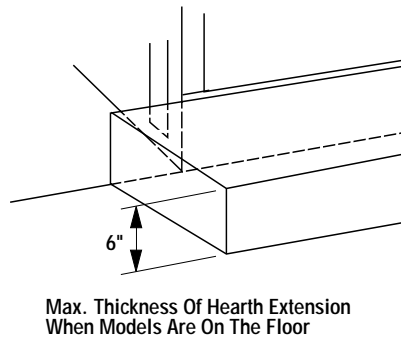

Figure 45
**WARNING: WHEN INSTALLING HEARTH EXTENSION IN FRONT OF A NON-CIRCULATING FIREPLACE MODEL, THE FIREPLACE MUST BE RAISED IF HEIGHT OF HEARTH EXTENSION EXCEEDS 7” ABOVE THE BOTTOM OF FIREPLACE (FIGURE 45).**